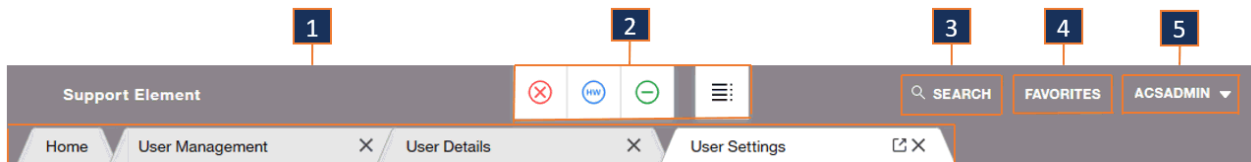

Figure 7. Elements of the SE masthead
The SE masthead, which is located across the top of the workspace window, consists of the four major elements shown in Figure 7 on page 276.
- Tabs of related tasks are grouped together. For example, in Figure 7 on page 276 , User Management and User Details are related so their tabs overlap.